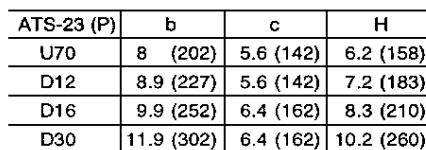
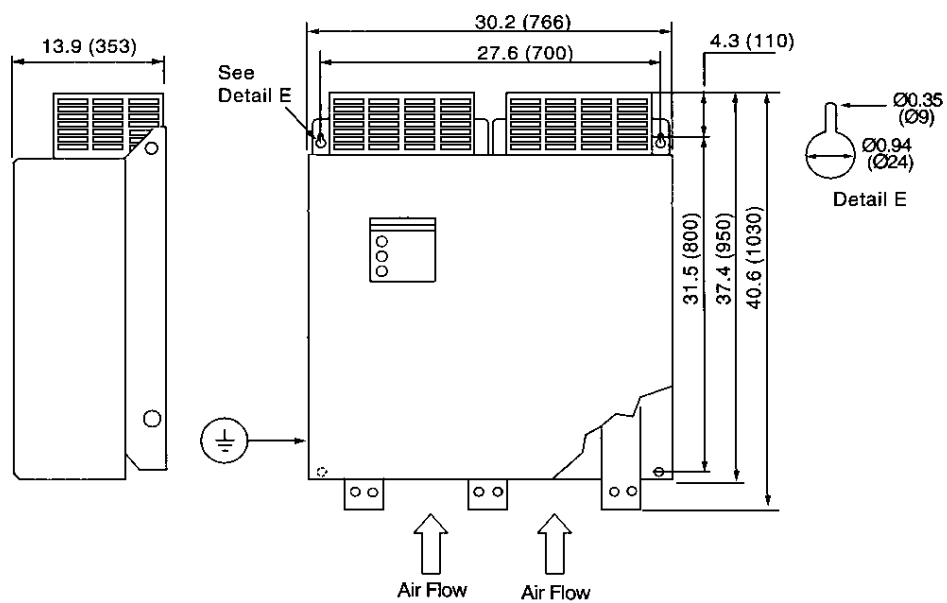

Figure 6 Dimensions: ATS23•U70 to D30
Figure 10 Dimensions: ATS23•C82 and M12
- User is responsible for conforming to all applicable code requirements with respect to grounding all equipment. See Figure 6 through Figure 10 for grounding points.